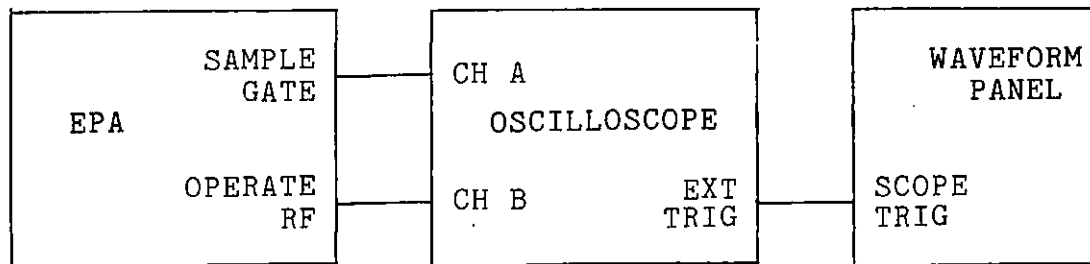

Figure 3.7. Equipment Setup for Pulse Amplitude Monitoring
3.3.2.2 Pulse amplitude monitoring. Refer to Figure 3.7 and the following steps to monitor the pulse amplitude: